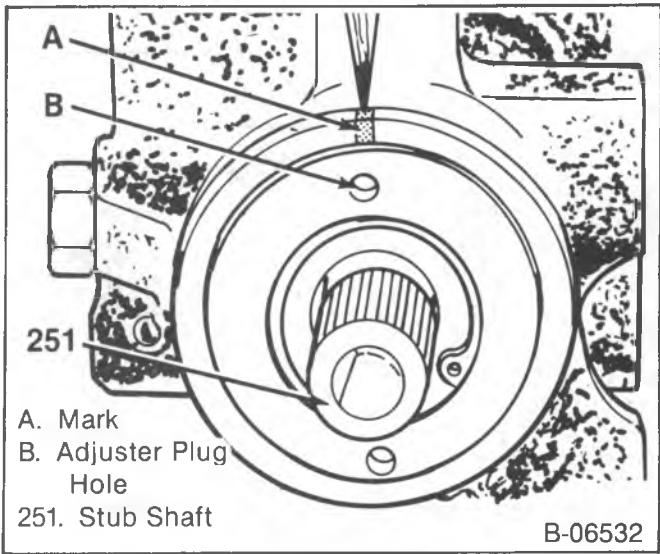

Figure 16—Marking the Housing
- Mark the housing in line with one of the holes in the adjuster plug (figure 16).